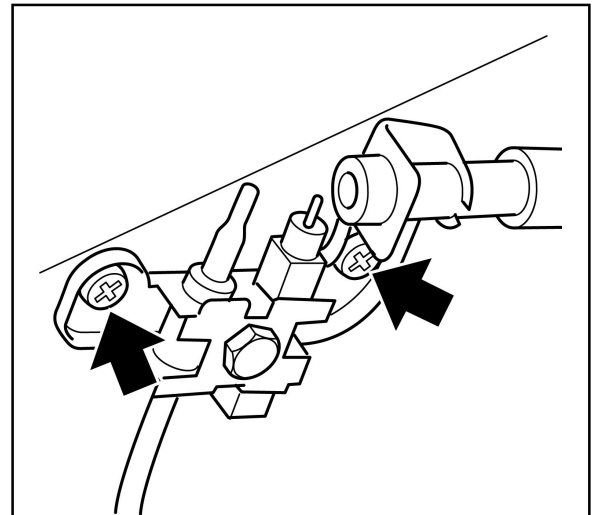

Figure 42. Pilot unit removal
6. Remove the two screws securing the pilot unit (See figure 42).